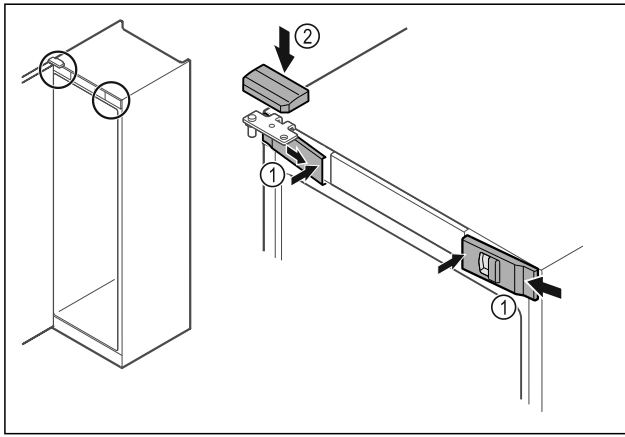

Fig. 37
- ▶ Hook in the front covers Fig. 37 (1) on the side and snap them into place on the inside.
- ▶ Snap on the top cover Fig. 37 (2) from above.